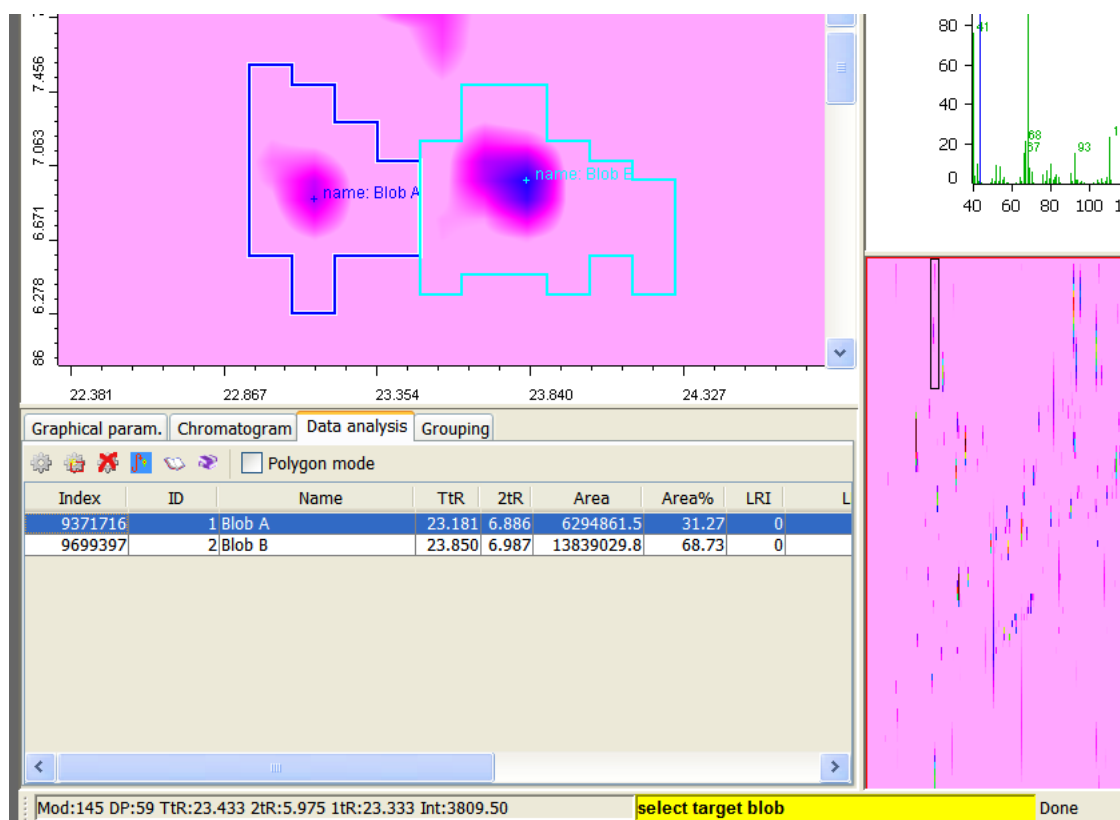

Figure 12.9: Merging Blobs: origin Blob selected - ask for target
5. From the context menu, select **Add to Blob**: a warning message, with the text “**select target blob**” on a *yellow* background will be displayed in the Status bar. See Figure 12.9.
4. From the context menu, select **Add to Blob**: a warning message, with the text “**select target blob**” on a *yellow* background will be displayed in the Status bar. See Figure 12.9.